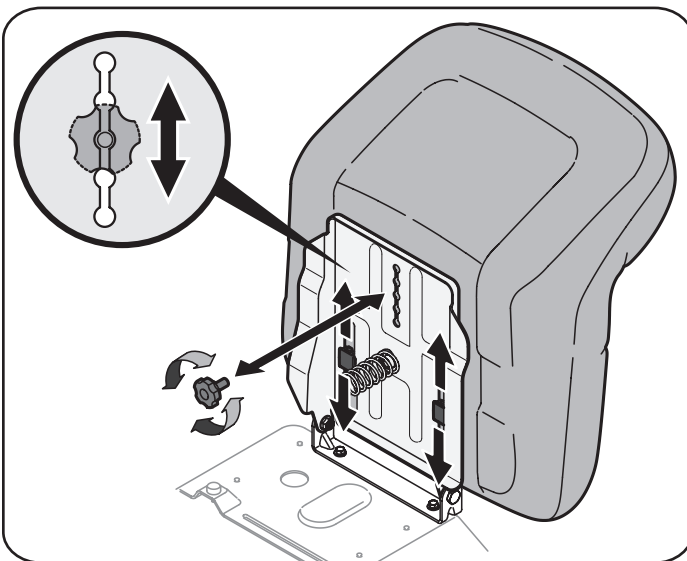

Figure 9
1. To adjust the position of the seat, remove the adjustment knob on the bottom of the seat. Slide the seat forward or backward as desired. Reinstall the adjustment knob. Refer to Figure 9.